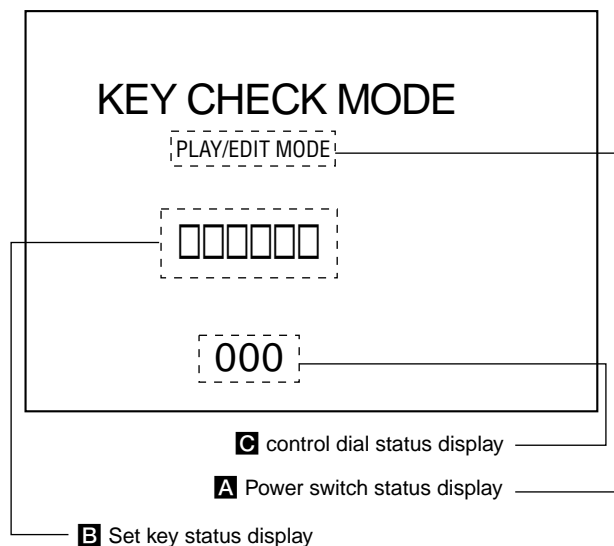

Fig.7-1-30
- 3) From the Switch Check mode, press **▶||** key to activate the Key Check mode. (The screen display becomes as shown in Fig.7-1-30)